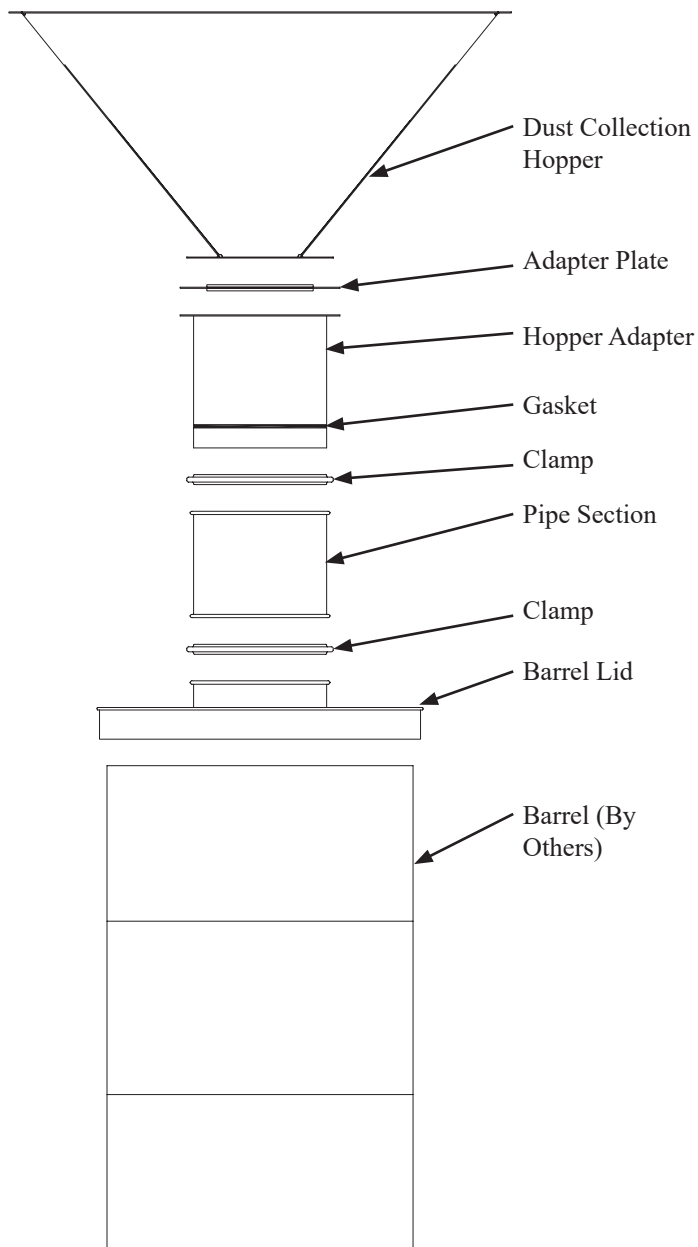

FIGURE 9
1. Bolt adapter plate and hopper adapter to the hopper using the four sets of 3/8" hardware (Figure 9).